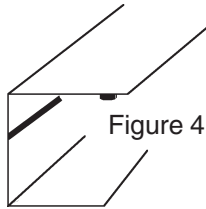

Figure 4
3. Run a bead of sealant on inside of top lip of hanging channel. *(See Figure 4.)*